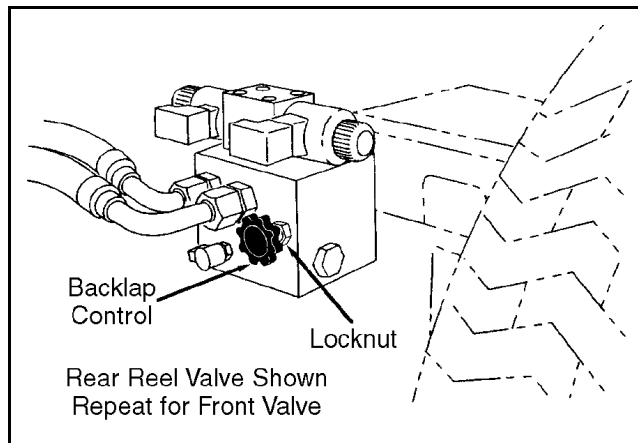

Figure 12E-4. Backlap Control
3. Open the hood and place the backlap control to REVERSE (Figure 12E-4). Start the engine and set the throttle to low idle speed.